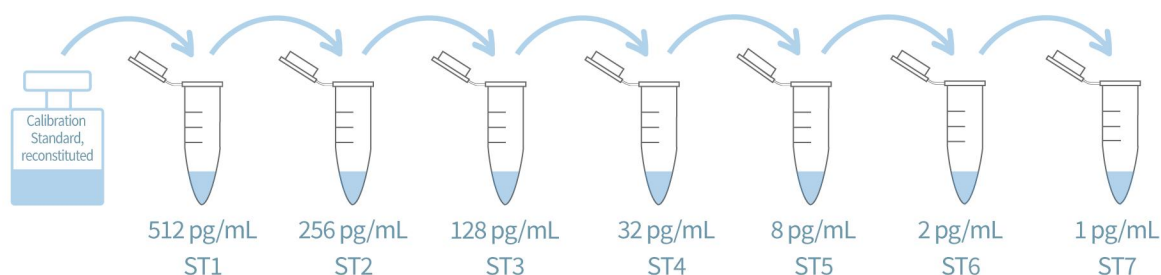

Figure 3. Graphic scheme of hIL-6 Calibration Standard Solutions
(3) Preparation of Calibration Standard Solutions
- Prepare hIL-6 Calibration Standard Solutions as shown in Fig 3 and Table 3.